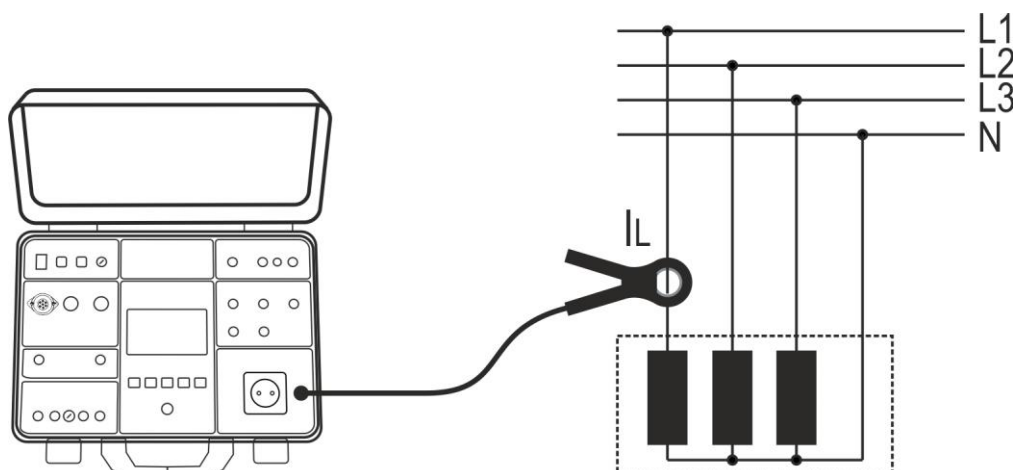

Fig. 69 : Connection of current clamp in ICLAMP measurement
6. Connect current clamp to measured wiring according to the Fig. 69